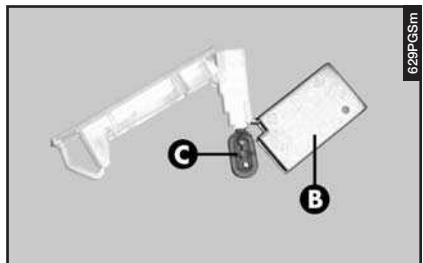

fig. 77
- Press the sides of the bulb screen (**B**-fig. 77) in correspondence with the two fastening pins and turn it.
— Change the bulb (**C**-fig. 77) which is pressure-fitted.